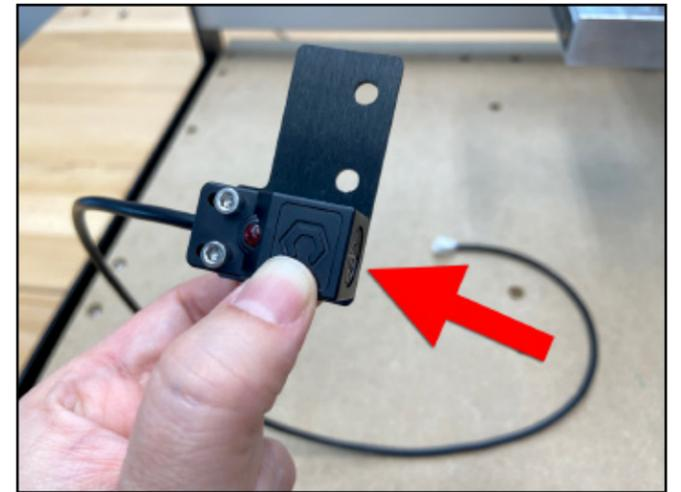

Figure 6-7
2. Align the switch and plate, with the switch facing right and the plate's two PEM nuts in the **BOTTOM-LEFT** corner. Flush the face of the switch with the edge of the plate. See **Figure 6-7**.
3. Use the 2.5mm hex key and two (2) M3×18mm socket head cap screws to attach the switch to the plate. Make sure the front edge of the proximity switch and plate stay flush. See **Figure 6-7**.